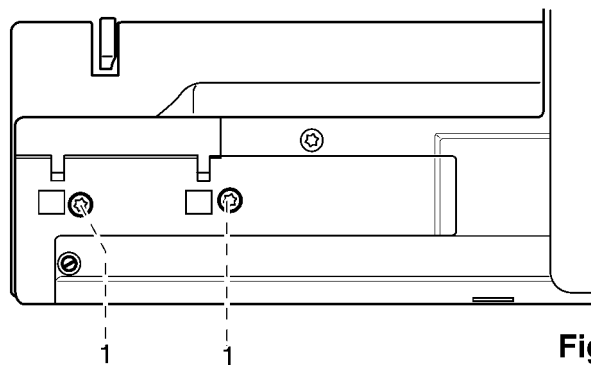

Fig. 1
- Remove the two fastening screws 1 of free-arm cover (fig. 1).